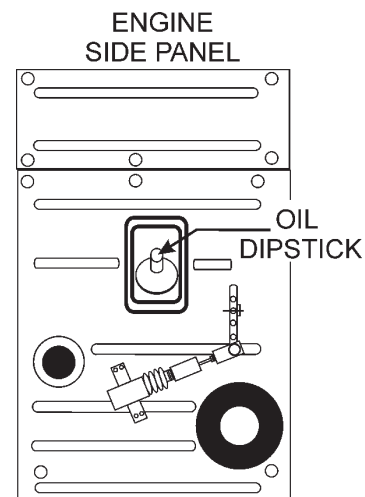

Figure 26. Engine Oil Dipstick
1. Remove the engine oil dipstick from its holder (Figure 26).